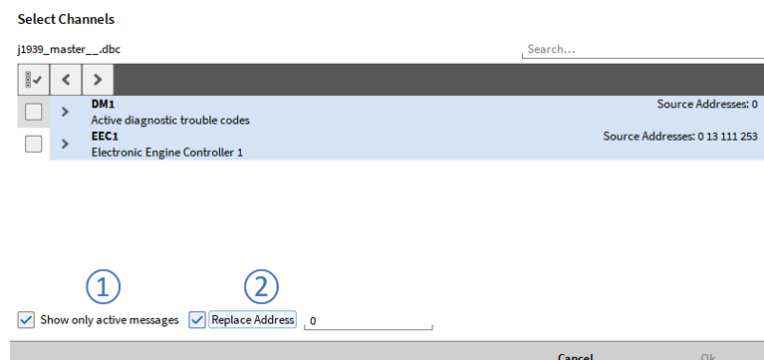

Fig. 7.205: Channel picker for SAE J1939 messages and signals
If a dbc- or arxml file is loaded that contains J1939 messages, the source Address will be displayed when Show only active messages is activated (see ① in Fig. 7.205). By Selecting Replace Address it is possible to replace the current source address of the dedicated mes-sage by a user defined one (see ② in Fig. 7.205).